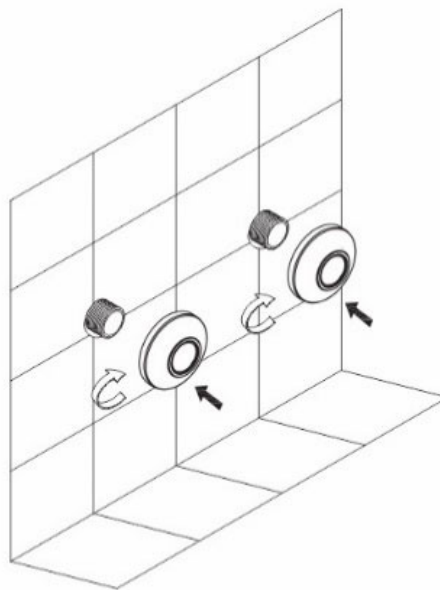

Figure 7
4. Install the decorative reflectors on the S-connectors (Figure 7).